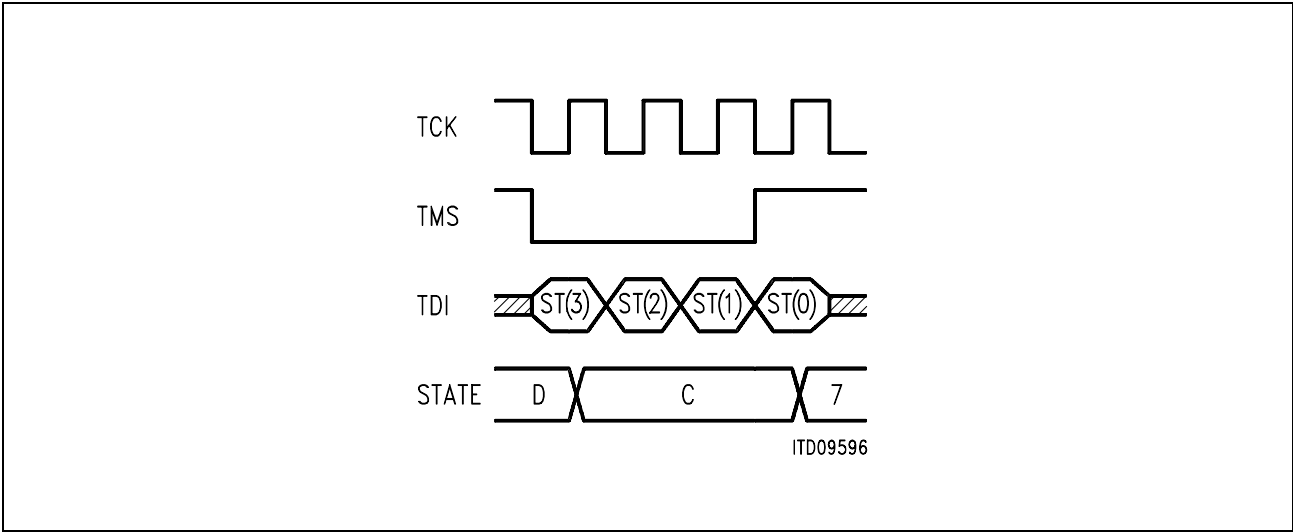

Figure 5
- STP command is shifted into the selftest control register (see **table 5** and **figure 5**)